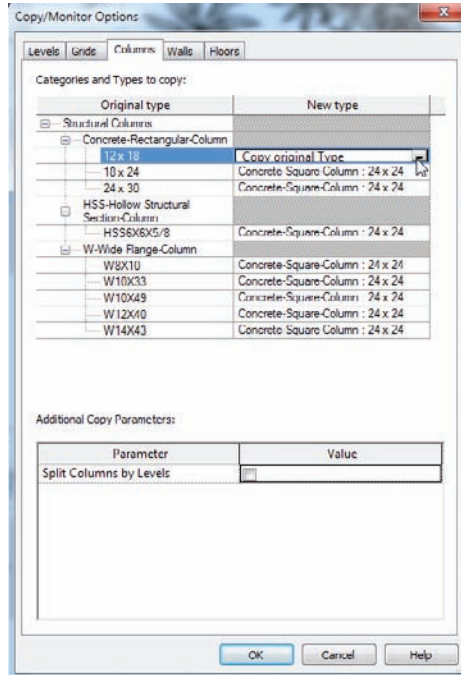

FIGURE 20.10 Changing to Copy Original Type
- Notice that Revit will replace any column indiscriminately with a 24"-square concrete column. Click into the first column category, and replace the entry with **Copy Original Type** (see Figure 20.10).